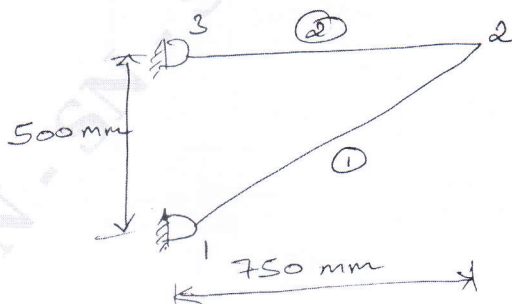

Fig.Q4(b)
- b. A truss shown in Fig.Q4(b) made up of 2 bars. Determine nodal displacement, stress in each element. Take $A_1 = 1200\text{mm}^2$; $A_2 = 1000\text{mm}^2$ and $E = E_1 = E_2 = 2 \times 10^5\text{MPa}$.